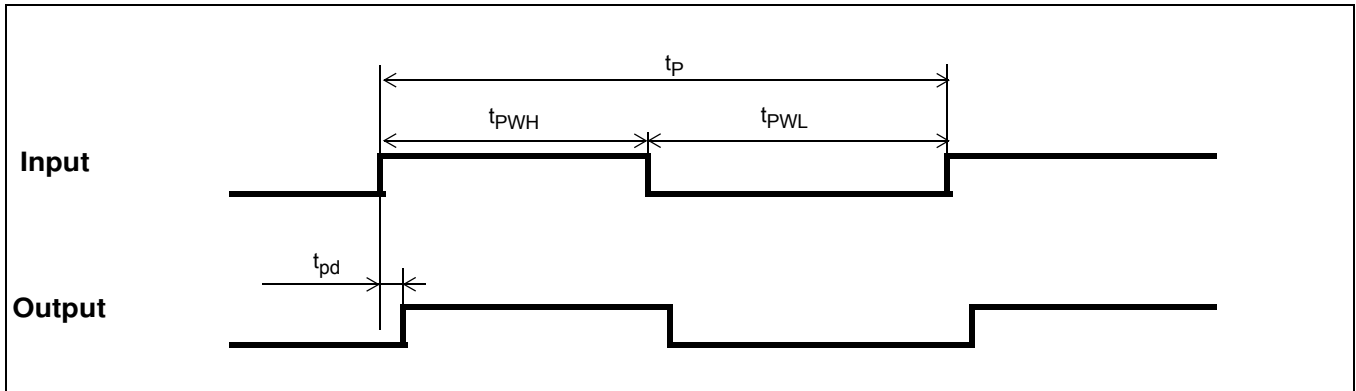

Figure 21 - Input To Output Timing
**AC Electrical Characteristics\* - Inputs and Outputs (see Figure 21) - for 2.5/3.3 V supply.**